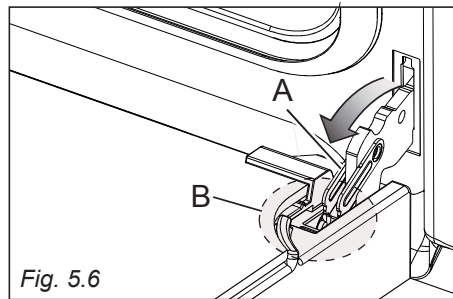

Fig. 5.6
- Open the lever "A" completely on the left and right hinges (fig. 5.6).
- Hold the door as shown in fig. 5.6.
- Gently close the door until left and right hinge levers "A" are hooked to part "B" of the door (fig. 5.6).